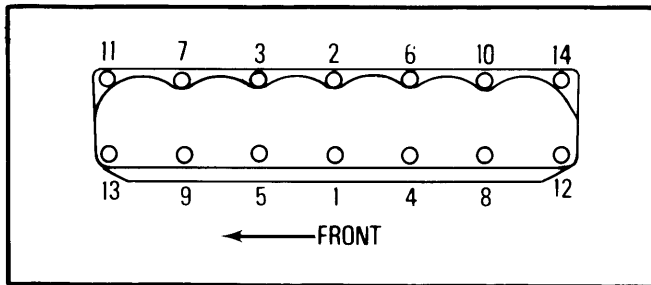

Fig. 2 Cylinder Head Tightening Sequence
- 4) Coat threads of head bolts with engine oil and install bolts. Tighten cylinder head bolts, in steps, in sequence shown in Fig. 2. Reverse removal procedure to install remaining components.